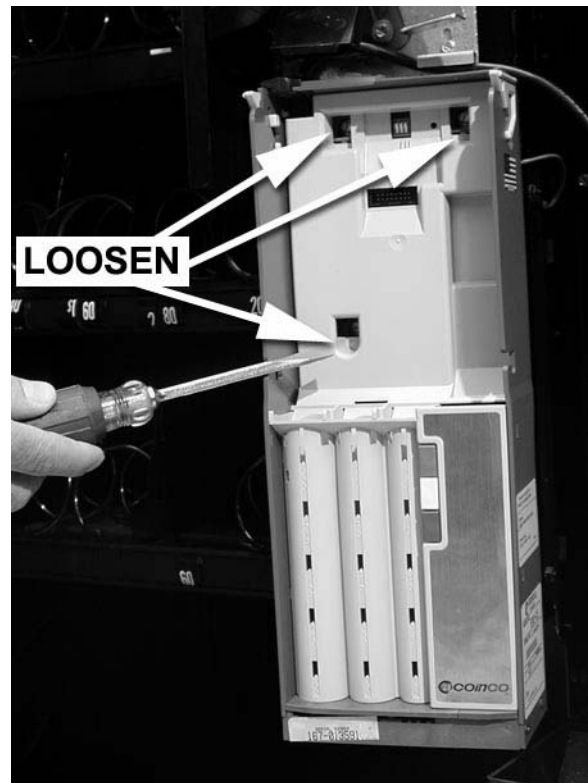

Figure 28
5. Loosen 3 hex-head slotted screws as shown (figure 28).